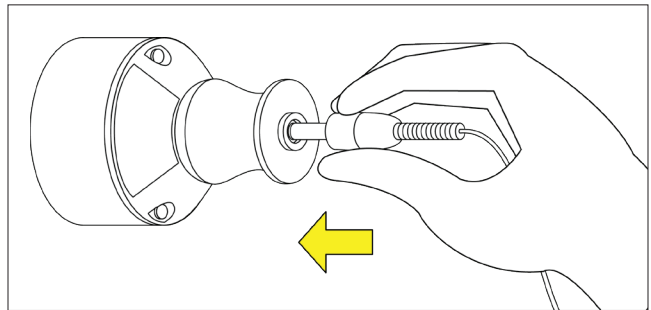

Figure 3. Plug in the ac adapter pin.
- (a) Plug the pin of the ac adapter into the opening on the power module. See Figure 3.